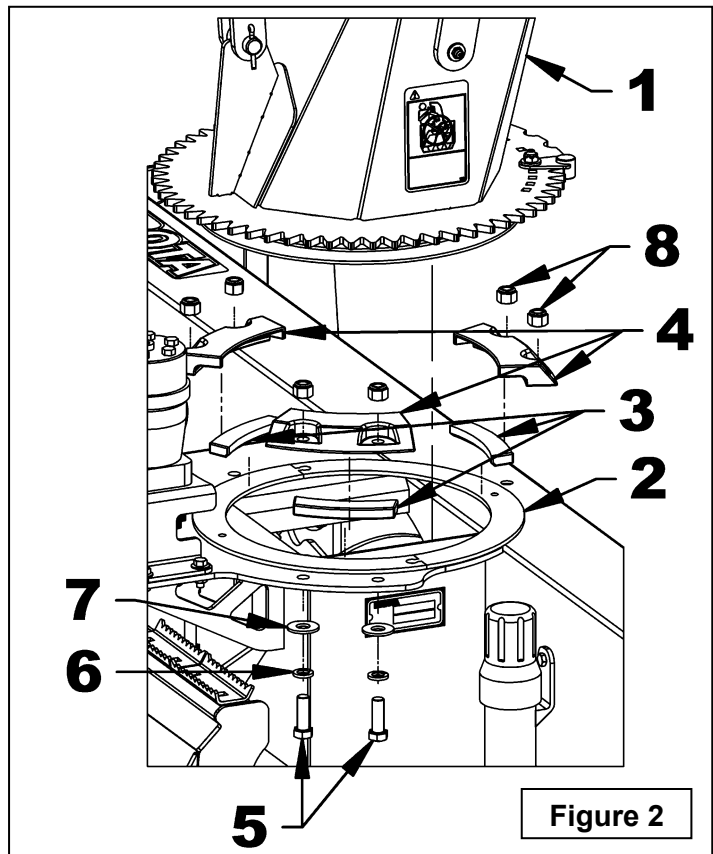

Figure 2
2. **Figure 2:** Assemble together the two anti-friction plates (item 2) and place on the snowblower frame so that they are centered with the drum output.
3. **Figure 2:** Place the chute (item 1) on the anti-friction plate assembly (item 2).
4. **Figure 2:** Place a chute guide (item 3) on the chute base (item 1) and install a retaining plate (item 4) using two 1/2"NC x 1 1/2" bolts, 1/2" lockwashers, 1/2" flat washers and 1/2"NC nylon insert lock nuts (items 5-6-7-8).